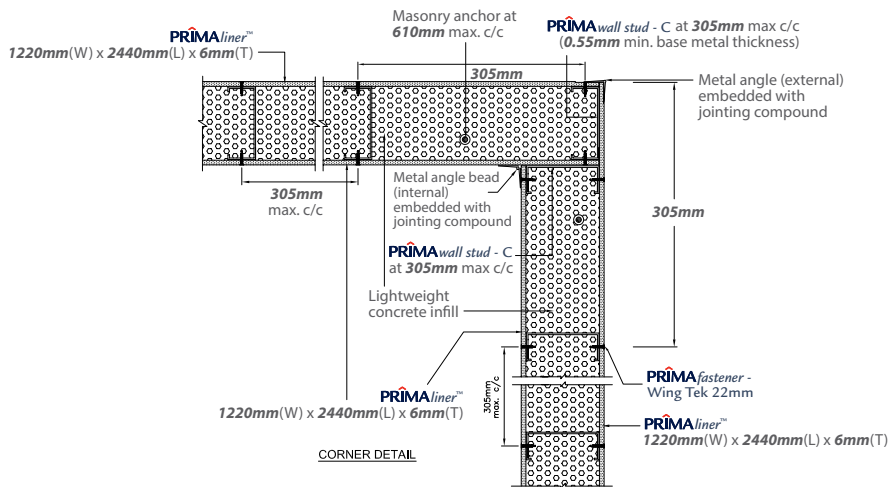

Figure 10: Corner wall intersection of solid infill wall to solid infill wall
- c. Refer to Figure 10 for corner wall intersection of solid infill wall to solid infill wall. Only inward corner required a 3 – 6mm gap filled with flexible paintable sealant.